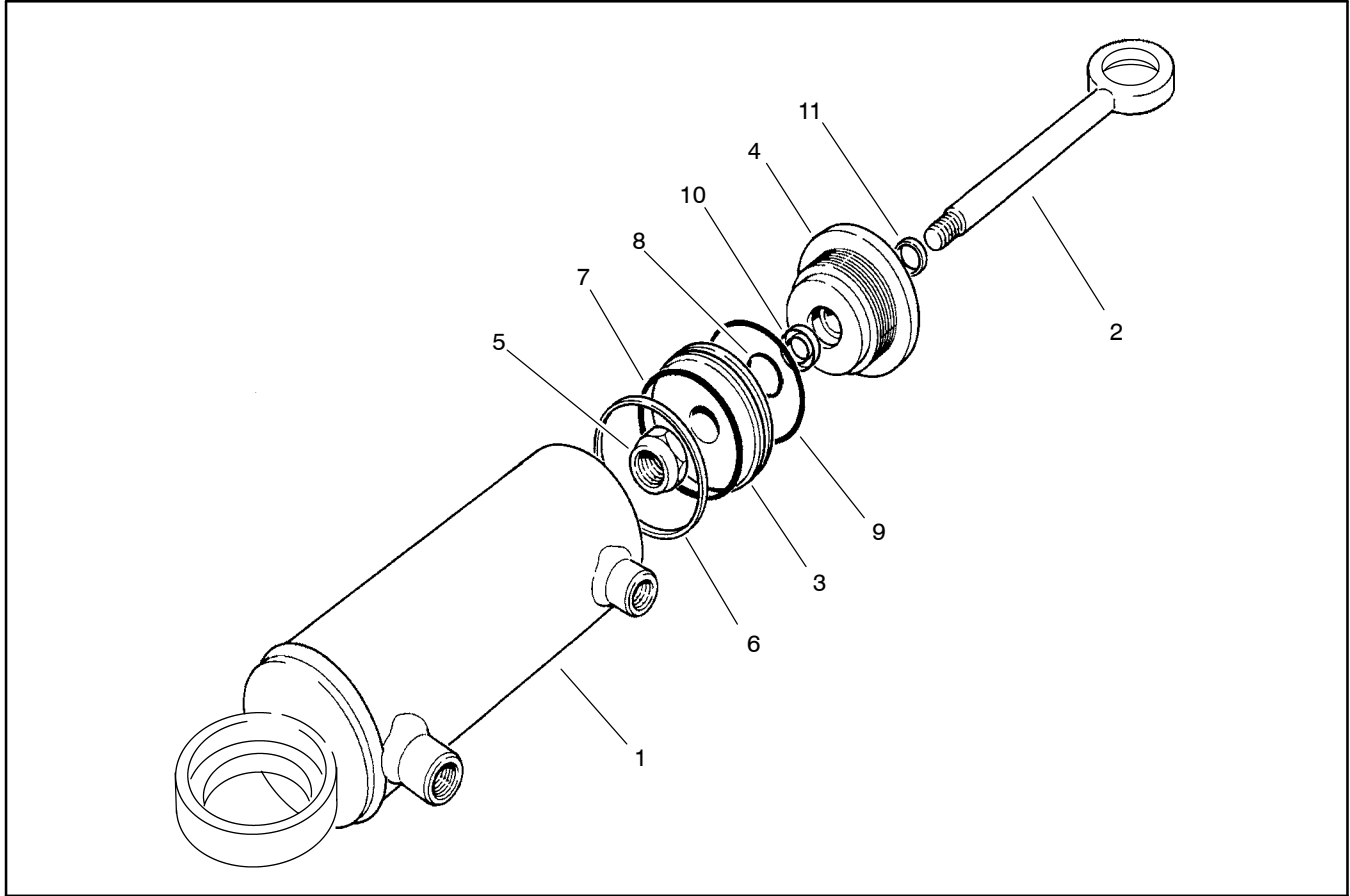

Figure 82
A. On cylinders without a retaining ring slot in the barrel (Fig. 82), use a spanner wrench to loosen and remove gland from barrel.
A. On cylinders without a retaining ring slot in the barrel (Fig. 82), use a spanner wrench to tighten gland into barrel.